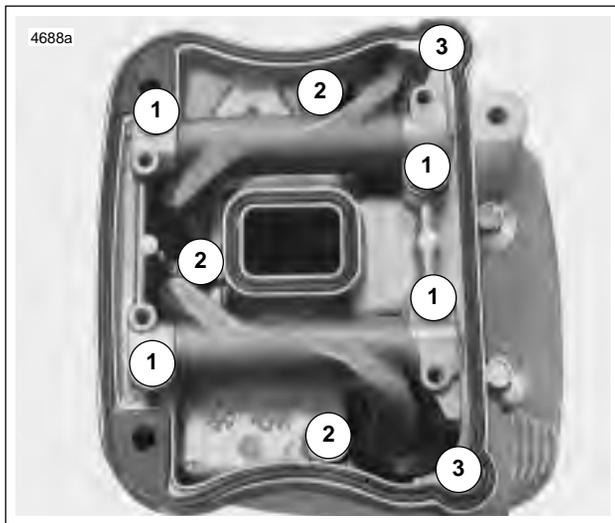

Figure 3-88. Lower Rocker Box Fasteners
9. See Figure 3-88. Install **new** gaskets with the bead facing up. Place lower rocker box assembly (with rocker arms and shafts) into position. Place push rods in rocker arm sockets.
10. See Figure 3-88. Install hardware attaching lower rocker cover to cylinder head in the following order. After loosely installing all fasteners, use a cross pattern on the four large bolts that fasten the lower rocker box to head to tighten and then torque to specifications. This will bleed the tappets. Finish tightening remaining fasteners. Fastener sequences, sizes and torque specifications are listed in Table 3-21.
- Tighten bolts (1) to 18-22 ft-lbs (24-30 Nm).
- Tighten bolts (2) to 135-155 **in-lbs** (15-18 Nm).
- Tighten bolts (3) to 135-155 **in-lbs** (15-18 Nm).